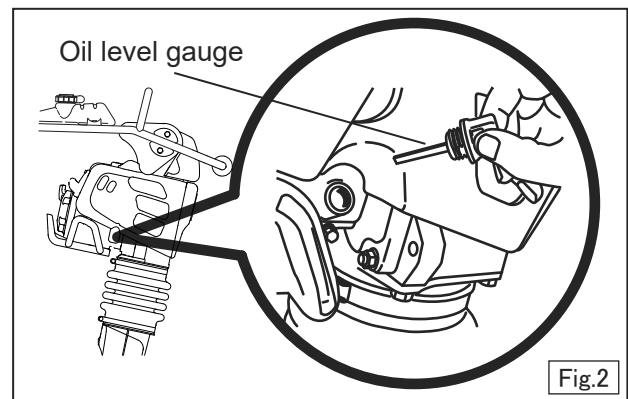

Fig.2
5. Check the engine oil. For checking the engine oil level, move the engine to vertical position and check that the oil is filled at the oil inlet (280cc). (Fig.2)